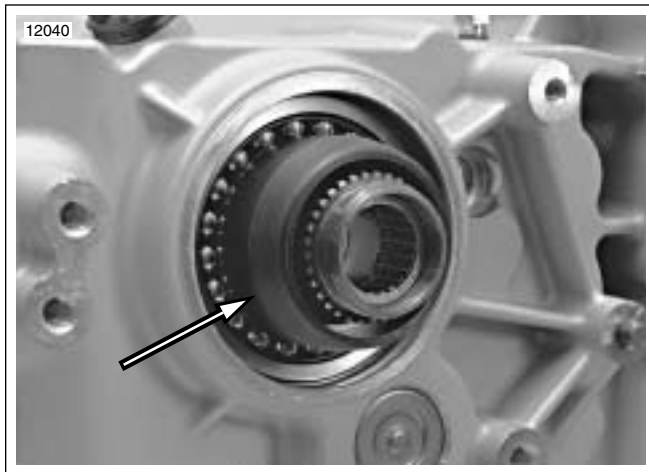

Figure 6-77. Install Pilot (Part No. HD-47856-2) (Typical)
1. See Figure 6-77. From outside of crankcase, install PILOT (Part No. HD-47856-2) over end of main drive gear bearing inner race.